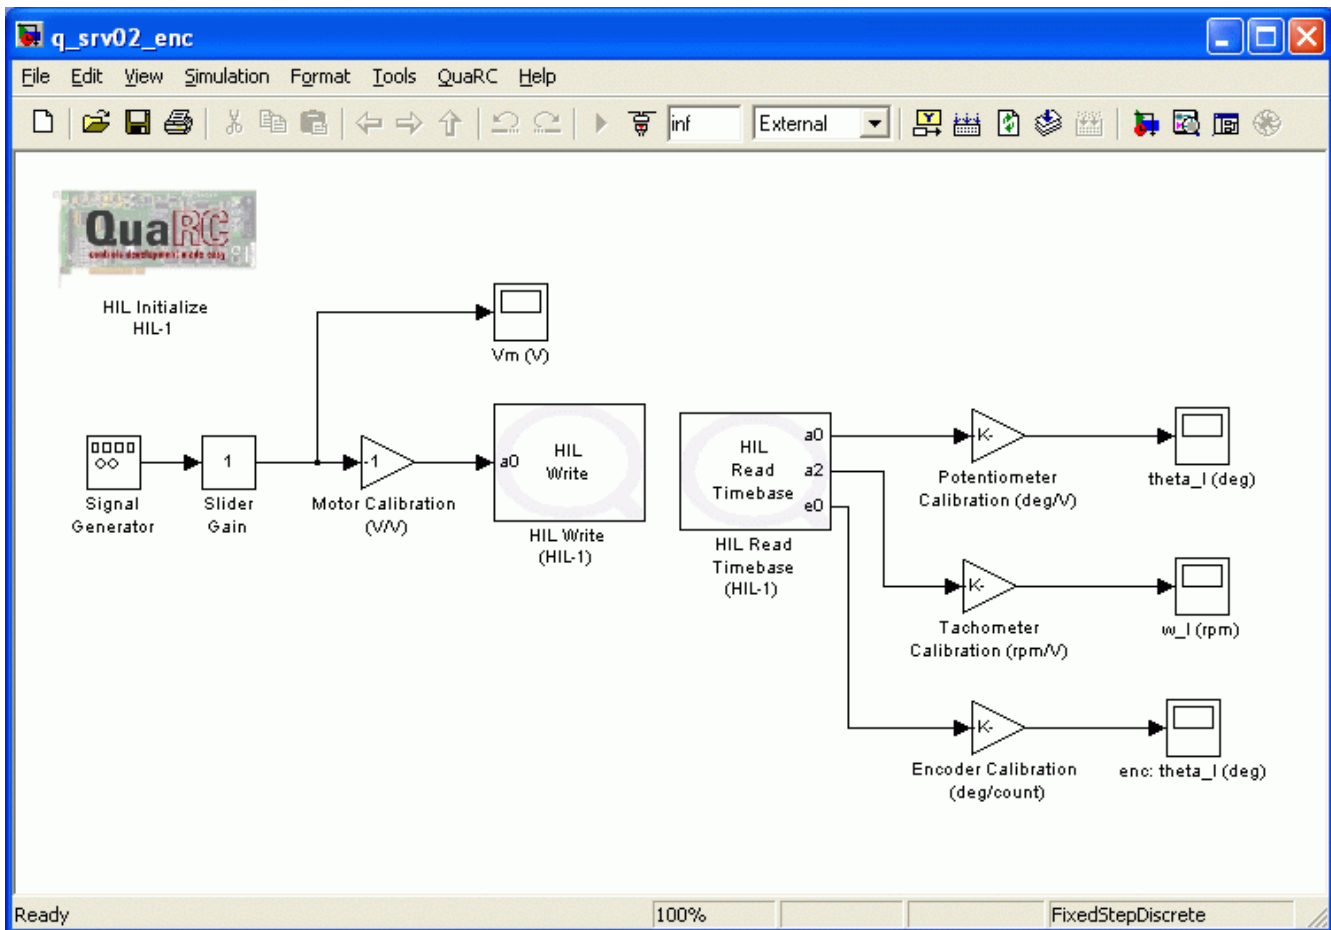
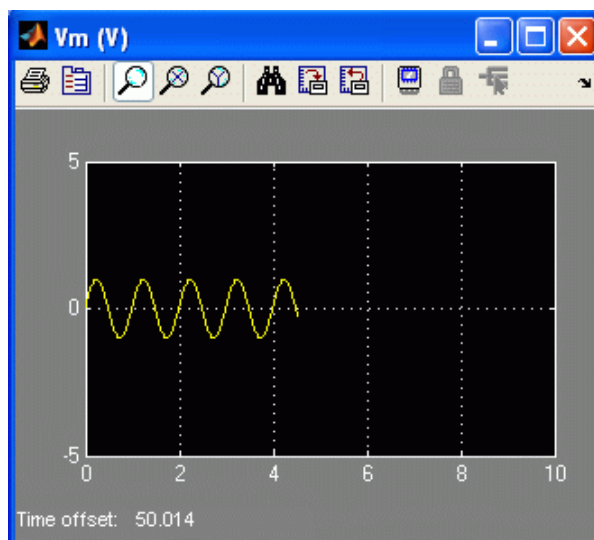
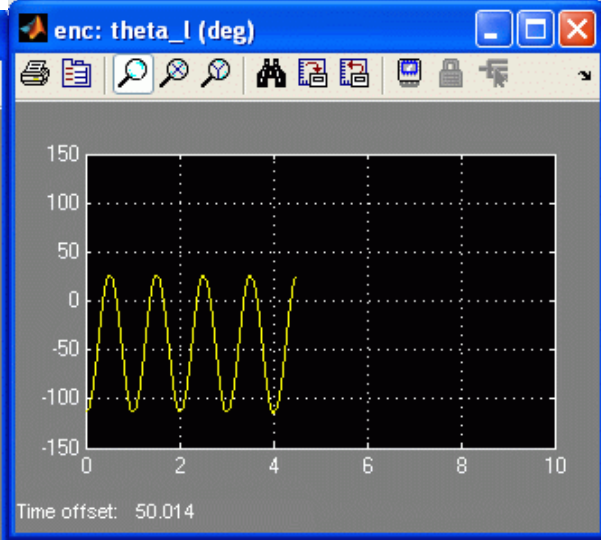

Figure 13: Simulink model used to send voltage to the SRV02 and read its potentiometer, tachometer, and encoder sensors.
Figure 14: Input sinusoidal voltage.
Figure 15: Load gear angle measured with encoder.
The Simulink diagram designed previously is modified to include an encoder measurement, as illustrated in Figure 13 below. Before continuing, please ensure that the SRV02 unit being used has an encoder, i.e. SRV02-E option.
4. Connect the Scope and Gain blocks as depicted in Figure 13, above. Thus connect the Gain block to the output labeled *e0* of the HIL Read Timebase block and label it *Encoder Calibration (deg/count)*. Then, connect the output of this gain block to the input of the Scope block and label the scope *enc: theta_1 (deg)*. This scope will display the measured angular position of the load gear in degrees.
6. Open the *Vm (V)* and *enc: theta_1 (deg)* scopes.
13. The measurement will be very small. Click on the *Autoscale* icon in the scope to zoom up on the signal or adjust the range of the y-axis manually. The input voltage and position scopes should appear similarly as shown in Figure 14 and Figure 15. Remark that no further calibration is needed: the encoder position increases when the input voltage goes positive.